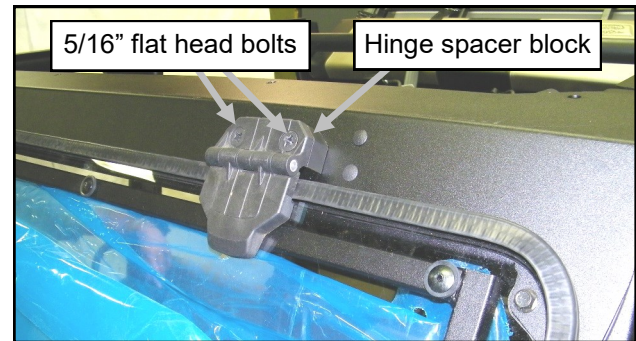

Fig. 10.1a Windshield, outside
- 10.1** Per figures 10.1a and b, place a hinge spacer block onto the windshield hinge and two flat head 5/16" bolts through each hinge. **Note: for glass windshields, use the thinner 5/8" thick hinge spacer blocks found in the windshield box. For polycarbonate windshields, use the thicker 3/4" thick hinge spacer blocks found in the hardware box.** Place the windshield onto the windshield support with the bolts through the slots and secure with 5/16" nuts.